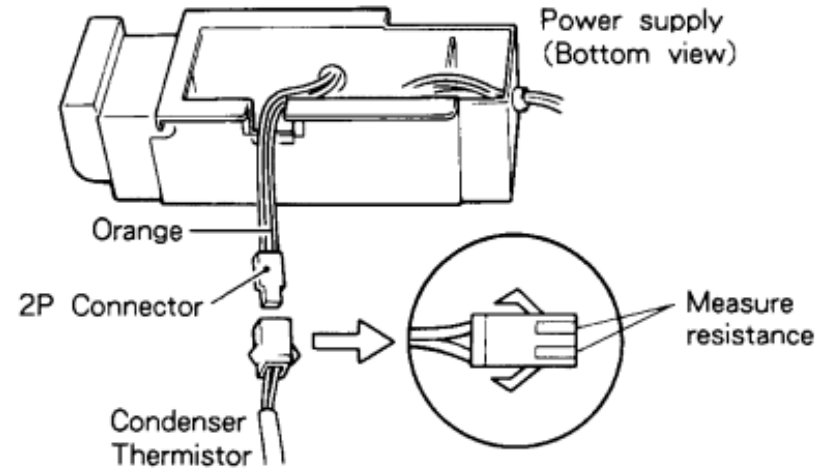

Figure 7 - Condenser Thermistor
1. Turn the refrigerator to OFF and measure the Condenser Thermistor as shown in Figures 7.
Refer to chart below and Figure 7.